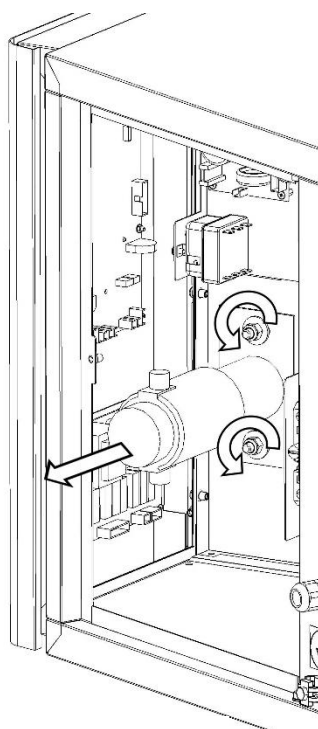

Fig.15B
- 5.Unscrew the bolts that fixing the motor to the support, extract and replace it (Fig.15B).